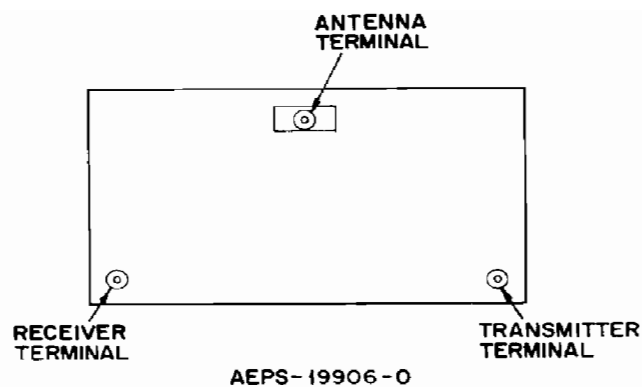

Figure 1. Duplexer Front Plate
Step 1. Remove the duplex injection filter from the radio set. Figure 1 of this instruction manual supplement shows the mounting location.